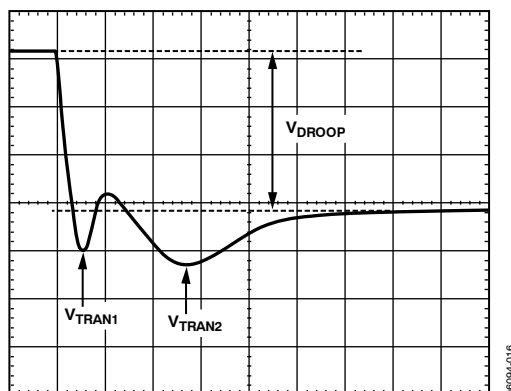

Figure 18. Transient Setting Waveform
18. With the dynamic load still set at the maximum step size, expand the scope time scale to either 2  $\mu s/div$  or 5  $\mu s/div$ . The waveform can have two overshoots and one minor undershoot (see Figure 18). Here,  $V_{DROOP}$  is the final desired value.